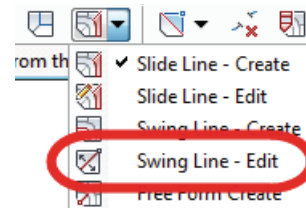

Figure 2–40
- In the Parcel Layout Tools toolbar, select **Swing Line - Edit**, as shown in Figure 2–40.
- In the Create Parcel - Layout dialog box, set the following parameters, as shown in Figure 2–41: